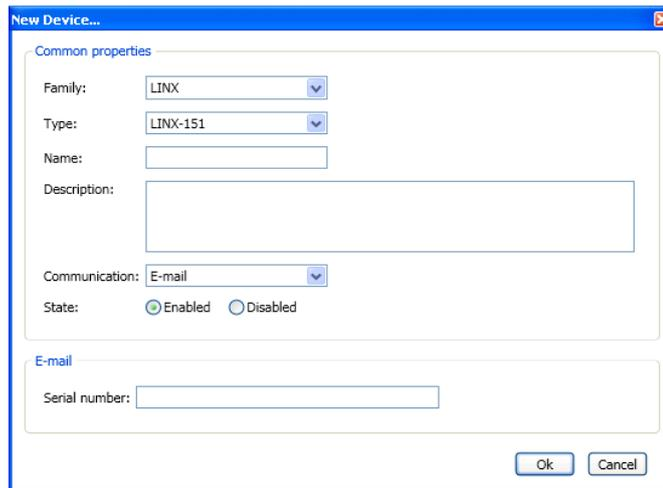

Figure 57: Add Device with Communication Mode **E-mail**
3. In the **New Device** dialog (see Figure 57) enter the following data: